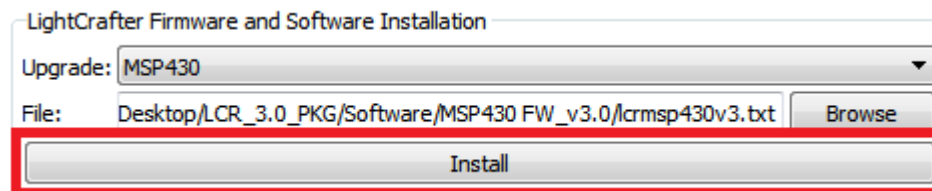

Figure 2-57. DLP LightCrafter GUI Firmware Install Button
3. After the file is selected, click Install as shown in Figure 2-57.